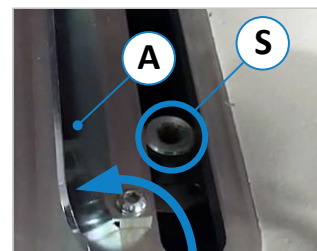

Figure 61: Clamping screws
- **Type 216** → Attach both clamping levers (3) and (6) and tighten to fix the fence in place.
- **Type 204** → Fit the clamping screws (⇒ Figure 61) and tighten both quick-release levers (3) and (6) to fix the fence in place.
- Only loosen (do not remove!) the quick-release levers (3) and (6).
- Fold up the two cover plates (A) to the left and right of the fence (see ⇒ Figure 61).
- Then remove the two clamping screws (S) (unscrew completely).